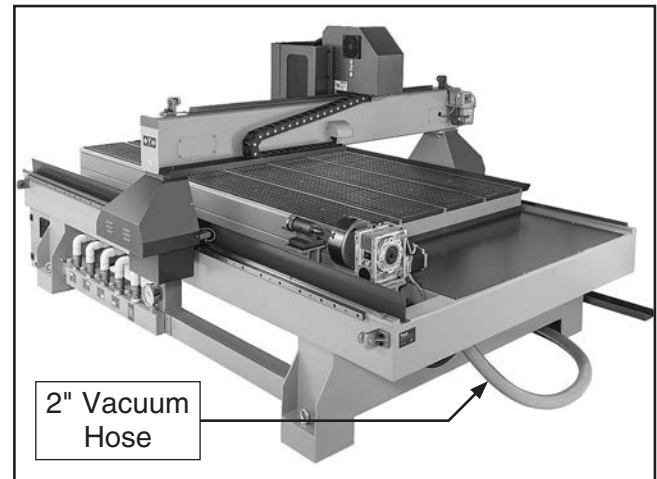
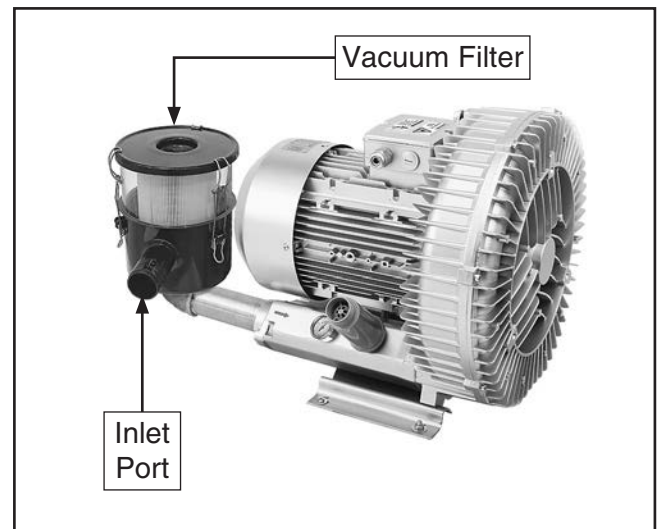

Figure 28. Vacuum hose location.
Figure 29. Vacuum filter inlet port location.
4. Connect 2" vacuum hose from machine (see **Figure 28**) to vacuum filter inlet port (see **Figure 29**) and secure with 2" hose clamp.